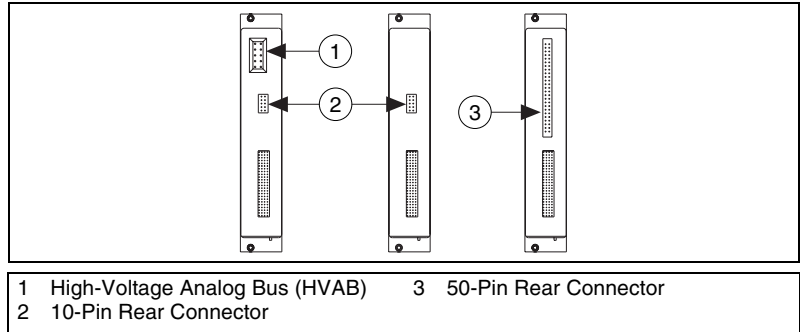

Figure 2. SCXI Switch Module Rear Connectors
6. Attach the SCXI-1359 cable adapter, included with SCXI-1357/1358 and SCXI-1359 kits, to the rear of the SCXI switch module. Ensure that the 10-pin connector of the switch module, shown in Figure 2, connects to the lower right 10-pin connector of the SCXI-1359 (facing the back).